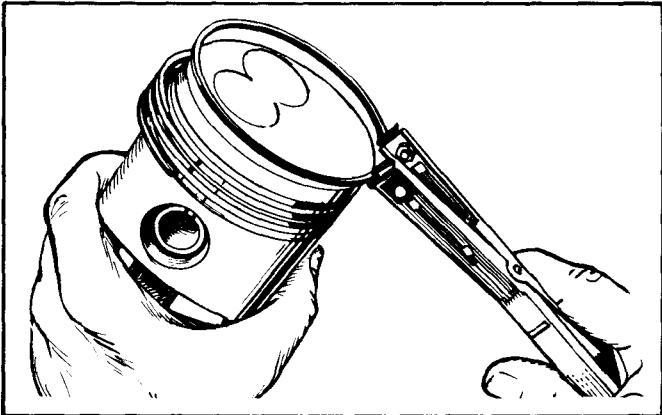

FIGURE 8. REMOVING PISTON RINGS
5. Remove the piston rings from the piston with a piston ring spreader as shown in Figure 8. Remove the piston retainer and push the piston pin out.